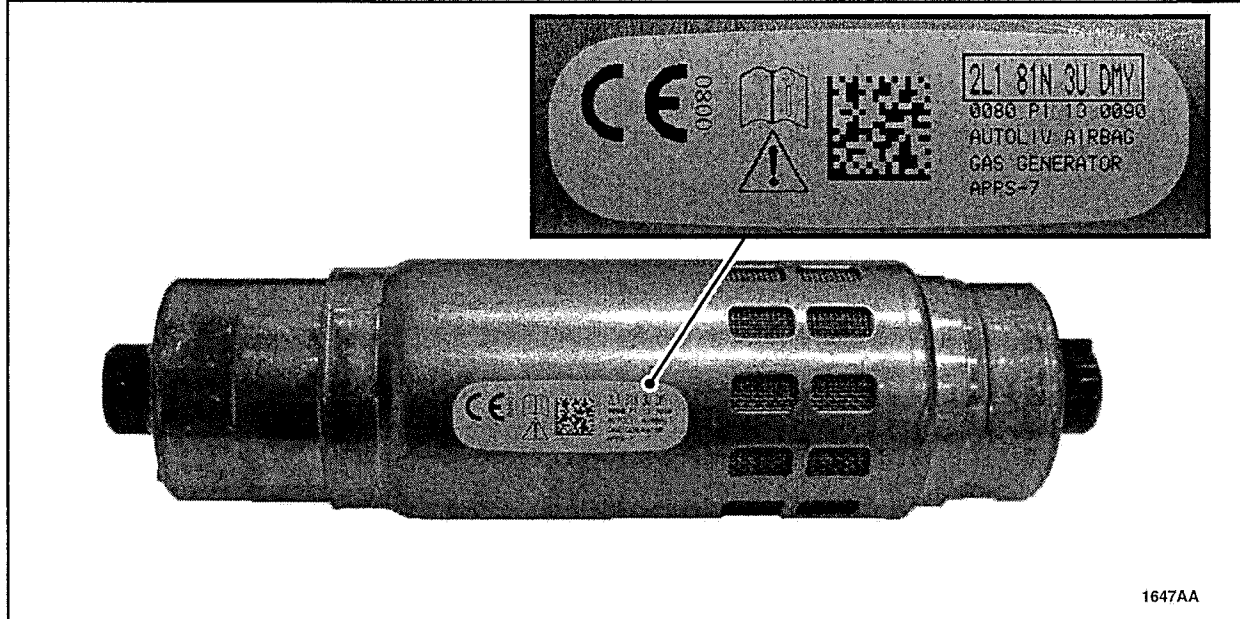

FIGURE 7
9. Record the 11 character serial number of the *new* airbag inflator on the repair order. See Figure 7.